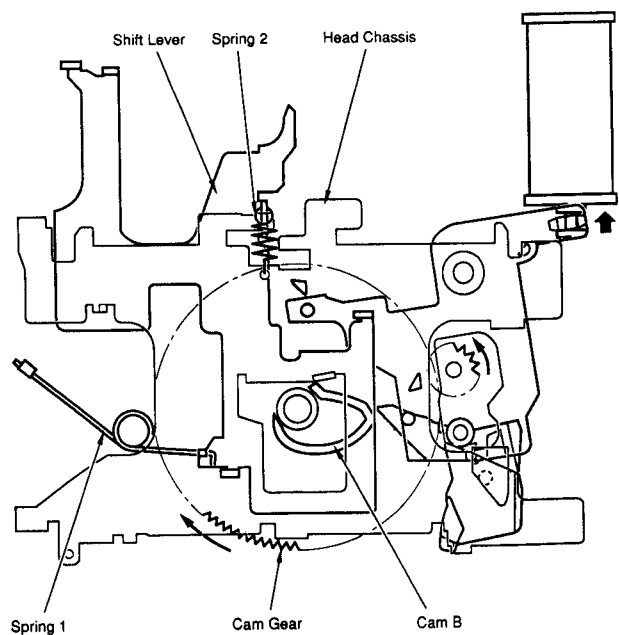

FIG. 3
3. The shift lever is pushed down by spring 1 and the head chassis is pressured by the shift lever and spring 2. Because the shift lever pushes cam B of the cam gear, the actuation of 2. makes the cam gear rotate. [Fig. 3]